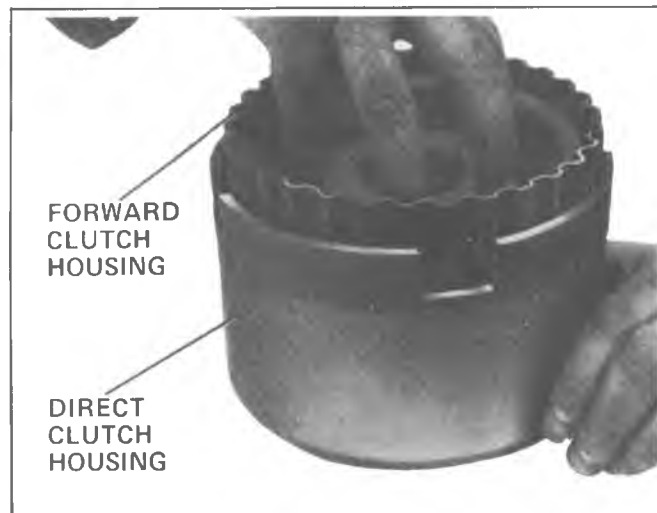

Fig. 7A-121A--Installing Forward Clutch Assembly
2. Install intermediate band, locating band apply lug and anchor pin lug in case slots (Fig. 7A-125A).